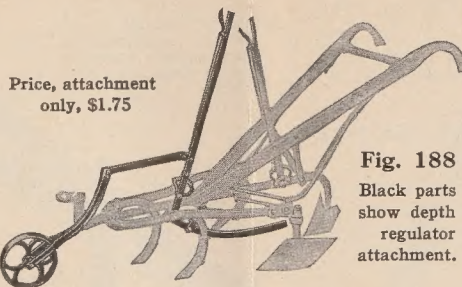

**Fig. 180**
**To close furrows.** Fig. 71 shows the No. 6 as a seven-tooth cultivator, or in other words the regular No. 6 set as a five-tooth cultivator with Fig. 180, furrow-closing attachment in position.